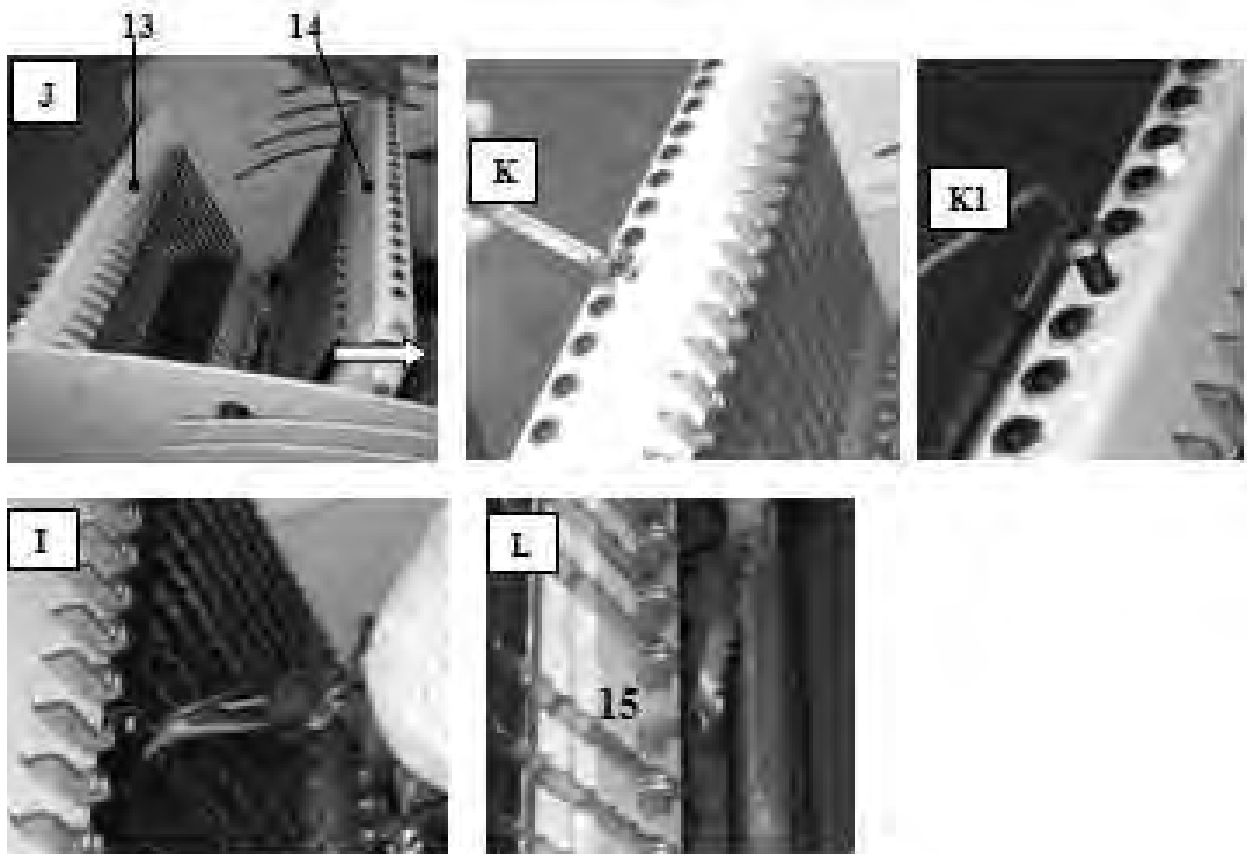

Figure 16
11. Position the bottom pin of the new blade in the connecting slot ref. 15 Photo L Figure 16, then in the top slot